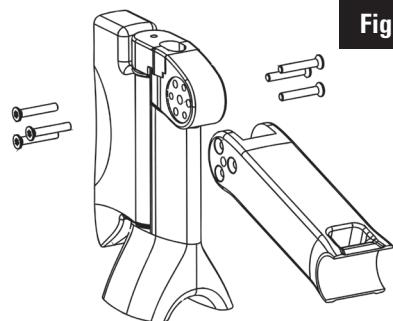

Fig. 6
5. Apply light pressure on the cones so that they remain in position in the fork (Fig. 6).